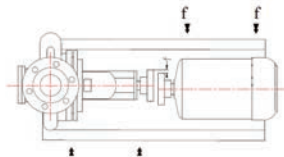
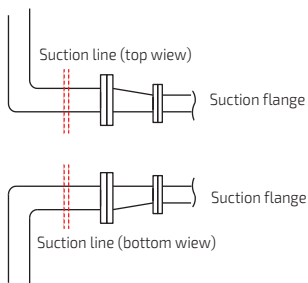

Figure 7: Parallel Axis Misalignment in Horizontal Plane and Its Correction
Figure 9: Piping System
2. Angular Misalignment (Figure 7-Figure 9)